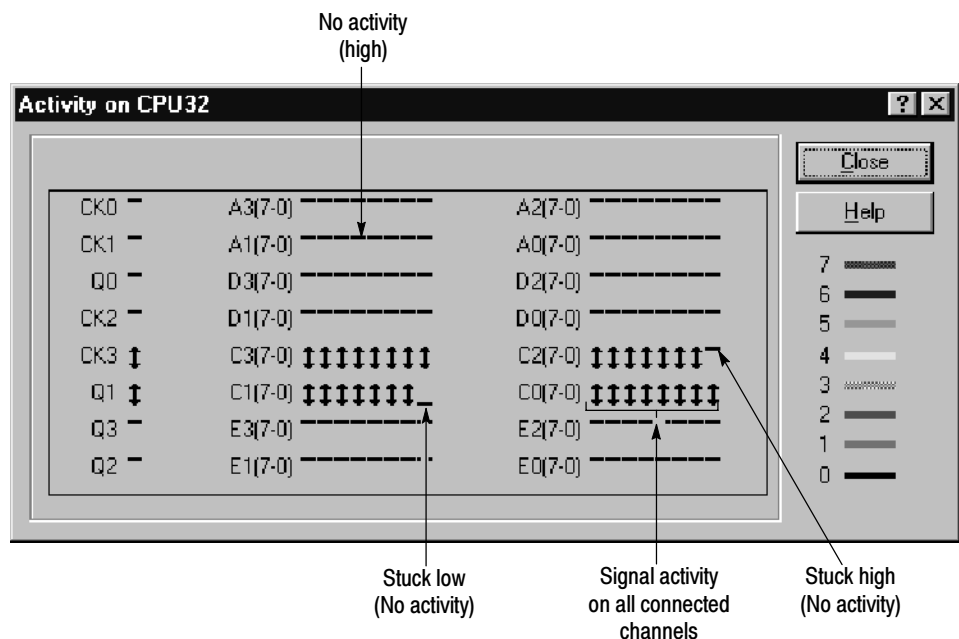

Figure 34: Example of the Activity Indicator dialog box
10. Visually verify that the Activity Indicator dialog box shows activity on all probe channels that are connected to the test fixture (see Figure 34).
11. Visually verify in the Activity Indicator dialog box that none of the connected channels are stuck high or stuck low (see Figure 34).